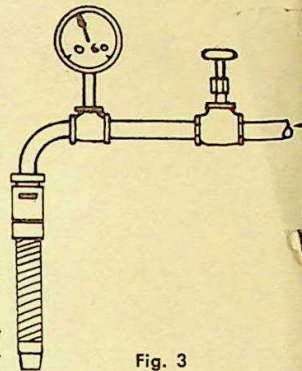

Fig. 3
2. The MEL-O-FLO COOLANT AERATOR requires a minimum of 1.2 GPM @ 5 PSI to aerate properly. If there is any doubt about the pump producing sufficient pressure, place a gage before the aerator as indicated, Fig. 3. If the pump does not deliver 5 PSI, either adjust the pump by-pass, or replace with a higher capacity pump.